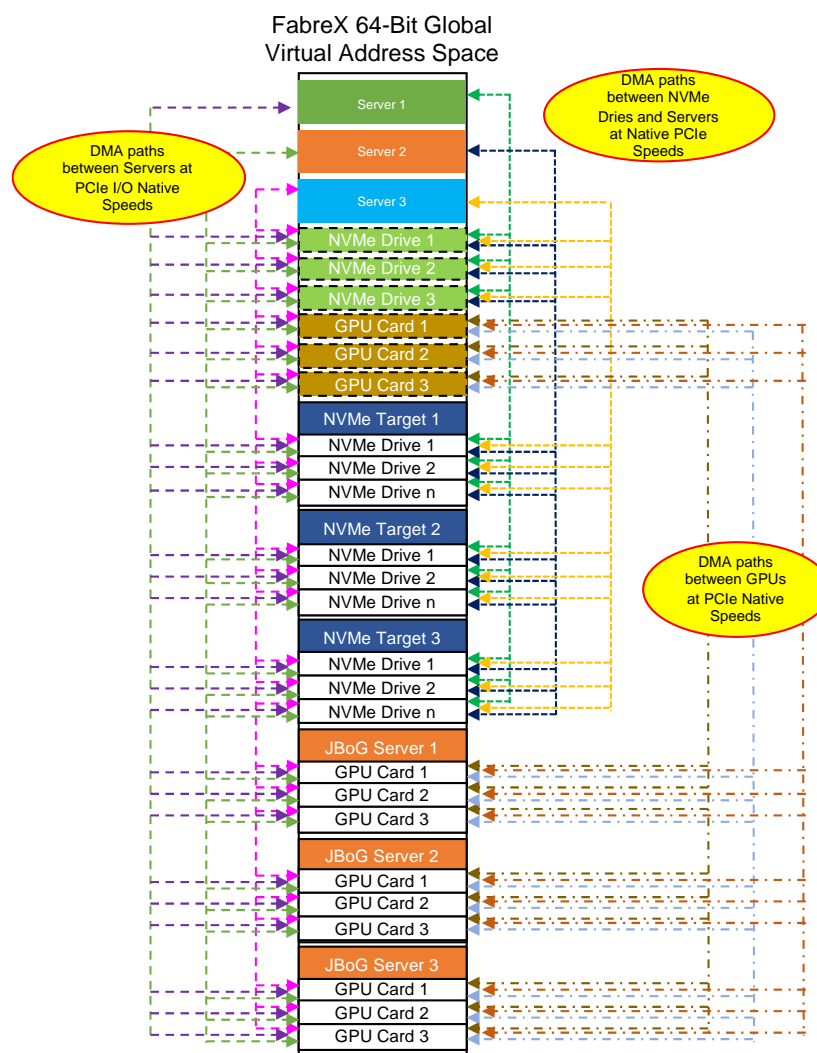

Figure 4 – Mapping all Resources to 64-Bit Global Address Space
Figure 4 – Mapping all Resources to 64-Bit Global Address Space.....	8
**Figure 4** shows the concept of mapping all of the resources attached to FabreX within its 64-bit Global Virtual Address Space. It shows the path of the server CPUs directly communicating with all of the PCIe I/O devices.